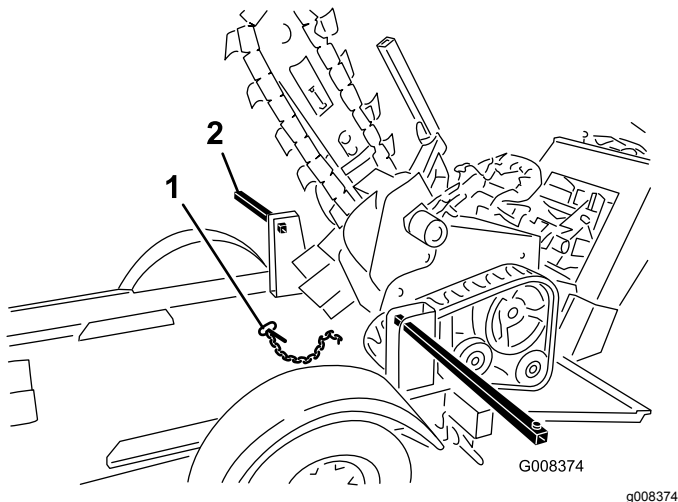

Figure 16
2. Remove the tie down bar pin and slide the bars apart (Figure 16).